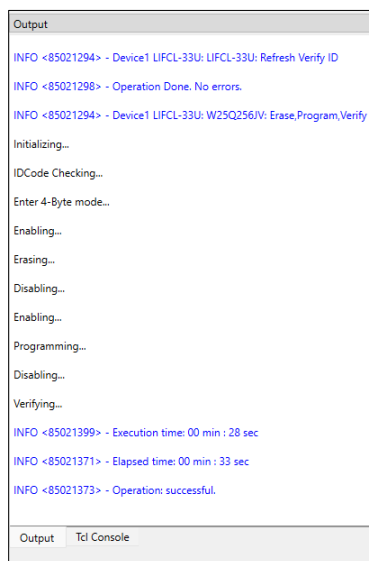

Figure 7.8. Message on Successful Programming
9. Verify that the programming status displays *Operation successful* in the output window, as shown in Figure 7.8. To activate the flashed bitstream, power cycle the device.